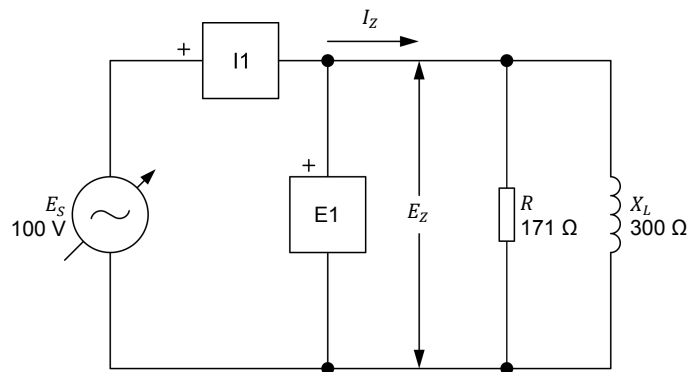

Figure 2-21. Parallel ac circuit containing a resistor and an inductor.
47. Set up the circuit shown in Figure 2-21.